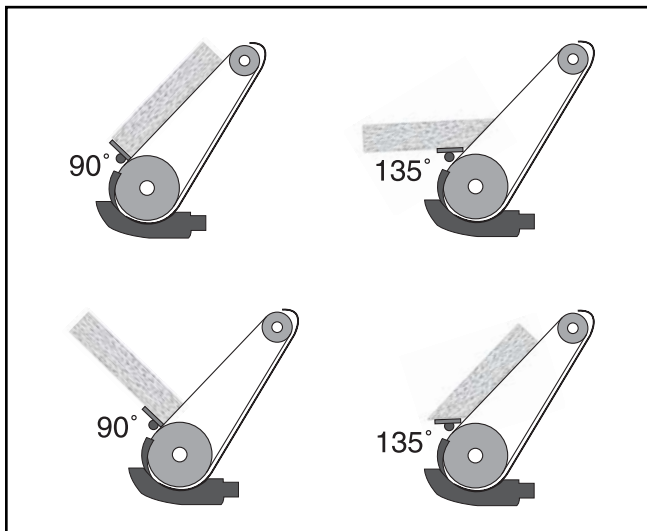

Figure 14. Examples of tool rest angles.
1. Before starting the machine, adjust the angle of the tool rest so your workpiece can be properly supported and the area you wish to sand will be parallel with the sanding belt as illustrated in **Figure 14**.